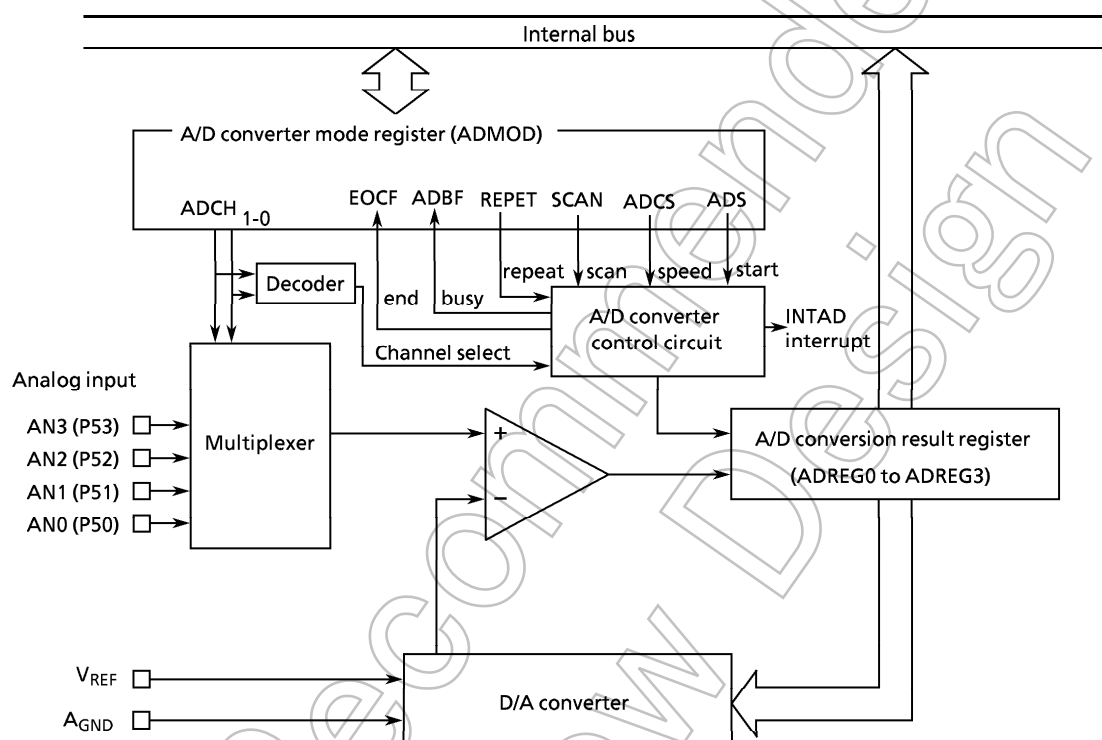

Figure 3.12 (1) Block Diagram of A/D Converter
Figure 3.12 (1) shows the block diagram of the A/D converter. 4-channel analog input pins (AN3 to AN0) are shared by input-only port P5 and so can be used as input port.